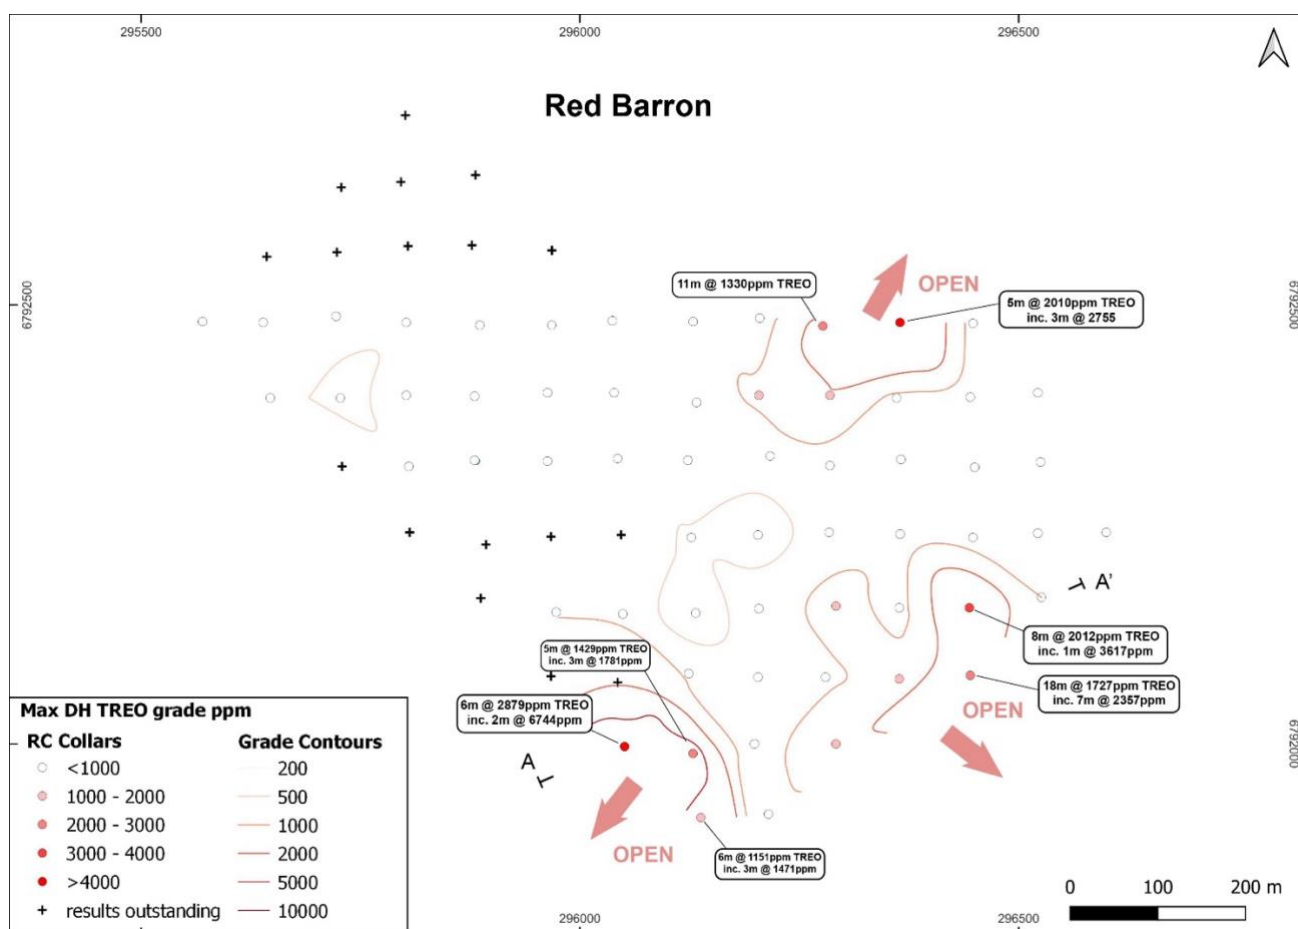

Figure 2 - Max downhole TREO grades by collar colour and interpretive contours to illustrate spatial continuity.
Thirteen (13) holes that were drilled at this prospect returned samples over 1,000ppm TREO. The surficial mineralisation, delineated from soil sampling, follows a broad NW-SE trend, parallel to the understood major structural orientation at Redlings. However, the controls on the location of higher-grade pods in the subsurface currently remains unclear. Mineralisation remains open in multiple directions and further detailed drilling and exploration work is required to understand, test and extend higher-grade zones identified during RC drilling (Figure 2). Cross sections A-A' show mineralisation is shallow with thickness varying across the holes. The best results from Red Barron were intersected on the edge of the drill pattern with mineralisation remaining open. Numerous high-grade REE horizons were observed at the Red Barron Prospect (Figures 2 and 3) with highlights including: